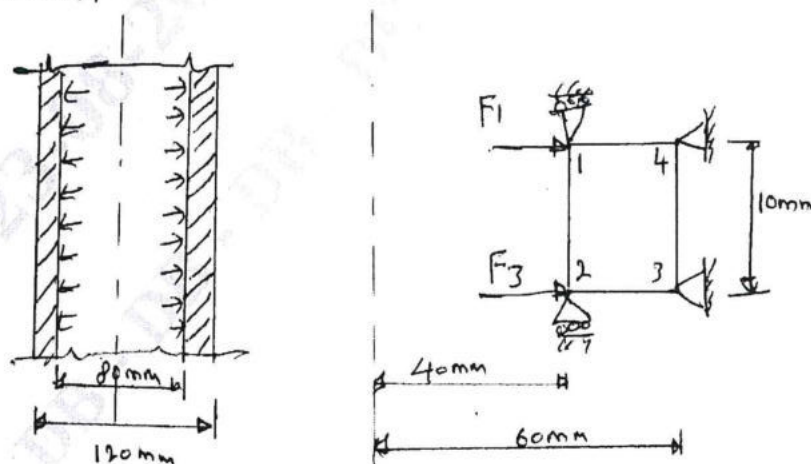

Fig.Q9
- 9 In Fig.Q9, a long cylinder of inside diameter 80 mm and outside diameter 120 mm snugly fits in a hole over its length. The cylinder is then subjected to an internal pressure 2 MPa. Using two elements on the 10 mm length, find the displacements at the inner radius. Take $E = 200 \text{ GPa}$, $\nu = 0.3$.